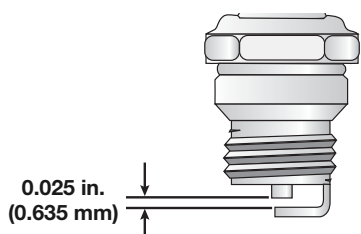

Fig. 20
3. Replace a cracked, fouled or dirty spark plug. Set the air gap at **0.025 in. (0.635 mm)** using a feeler gauge (Fig. 20).